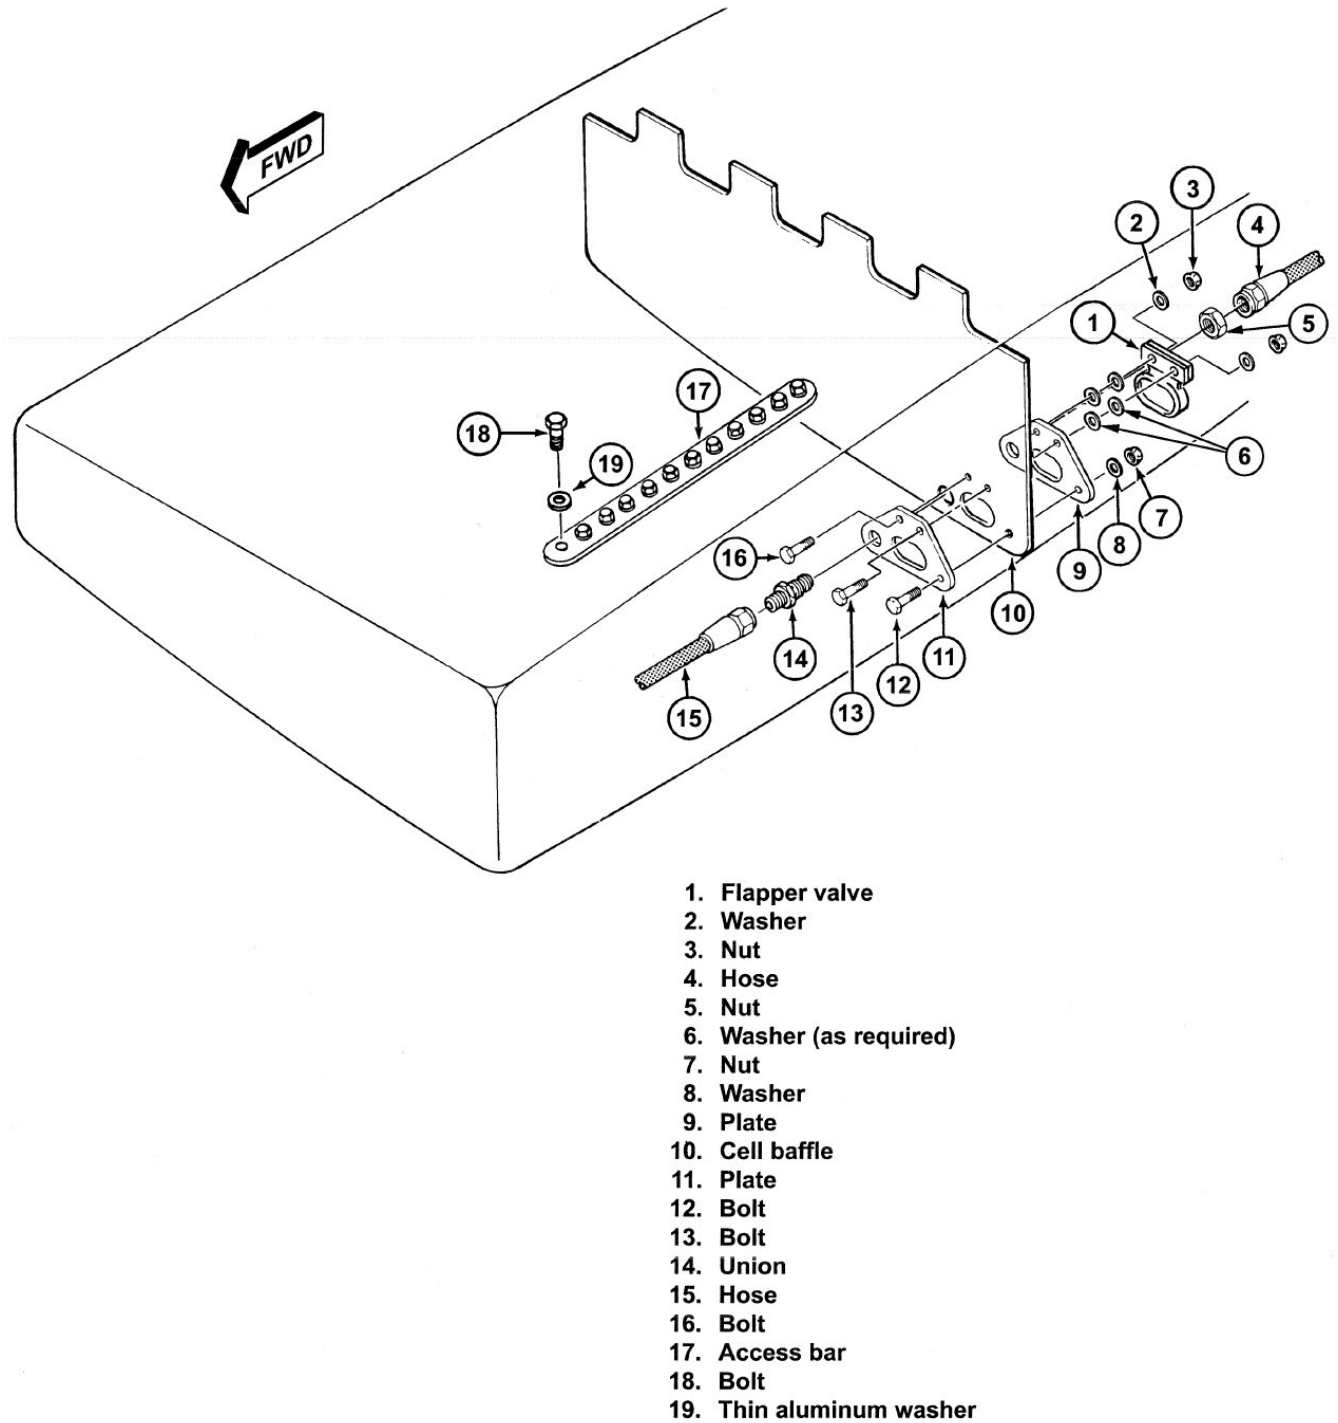

Figure 28-10. Flapper valve
forward fuel cell. Remove access bar (18, Figure 28-10), washers (19), and access bar (17).
28.17.2.1 Inspect flapper valve (1, Figure 28.10) for deterioration, cracks, and condition. Replace valve if deteriorated, nicked, cracked, or in unserviceable condition.
28.17.3.2 Position plate (11, Figure 28-10), with head of bolt forward, on forward side of cell baffle (10).